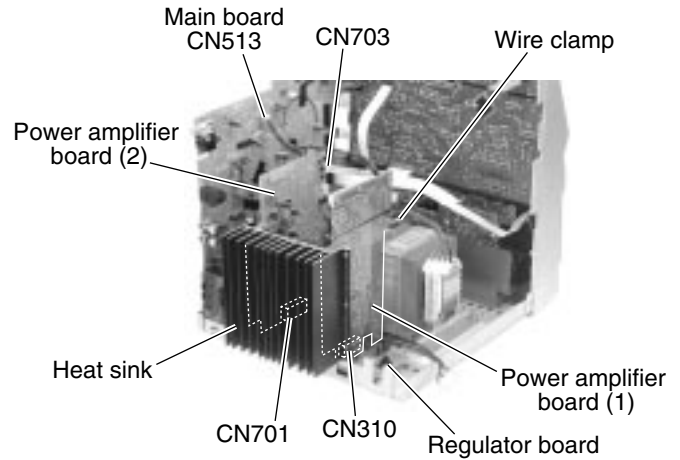

Fig.25
3. Disconnect the wire extending from the fan from connector CN705 on the power amplifier board (2).
4. Disconnect connector CN370 (only US/UJ/UG/UN/UW) CN371 on the analog output board from the main board. Disconnect connector CN372 and CN373 on the analog output board from the power amplifier board (1) and the power amplifier board (2) respectively upward.
■ Removing the power amplifier board (1) / power amplifier board (2) / heat sink (See Fig.25 to 27)
2. Remove the wire clamp on the power amplifier board (1).
3. Disconnect the wire from connector CN703 on the power amplifier board (2).
4. Disconnect connector CN310 on the power amplifier board (1) and CN701 on the power amplifier board (2) from the regulator board upward. The heat sink is detached with the power amplifier board (1) and the power amplifier board (2).
5. Remove the four screws **J** attaching the power amplifier board (1) to the heat sink.
6. Remove the four screws **K** attaching the power amplifier board (2) to the heat sink.